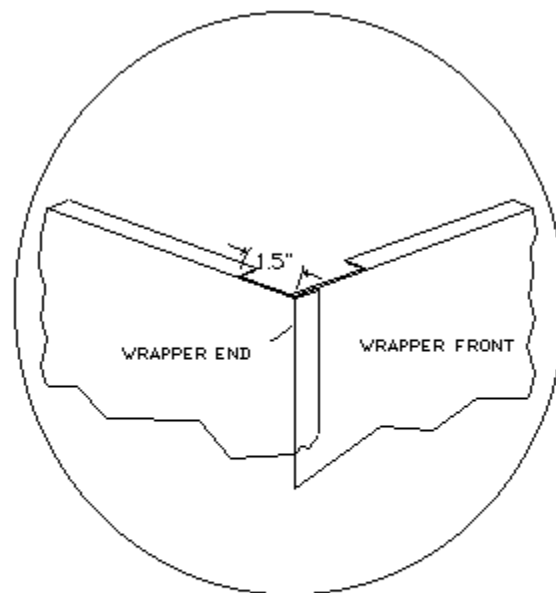

FIG. 4 CORNER DETAIL
5. Locate front wrapper panel. Position its' lower 3/8" flange under C-channel of hood and slide panel into position so that the end of front panel is behind the 90 degree bend of side panel. (Fig. 4) Once into place, press fit the lower flange of the front panel into C-channel in order to have wrapper face flush with front of hood. Screw or pop-rivet bottom of front panel to the C-channel.
3. Locate front panel of wrapper assembly. Slip its' lower 3/8" flange under factory C-channel. Slide panel end behind the 90 degree bend of side panel. (Fig. 4) Once in position, make sure wrapper face and hood face are flush. Screw or rivet front panel to C-channel and standoff panel (Fig. 8)